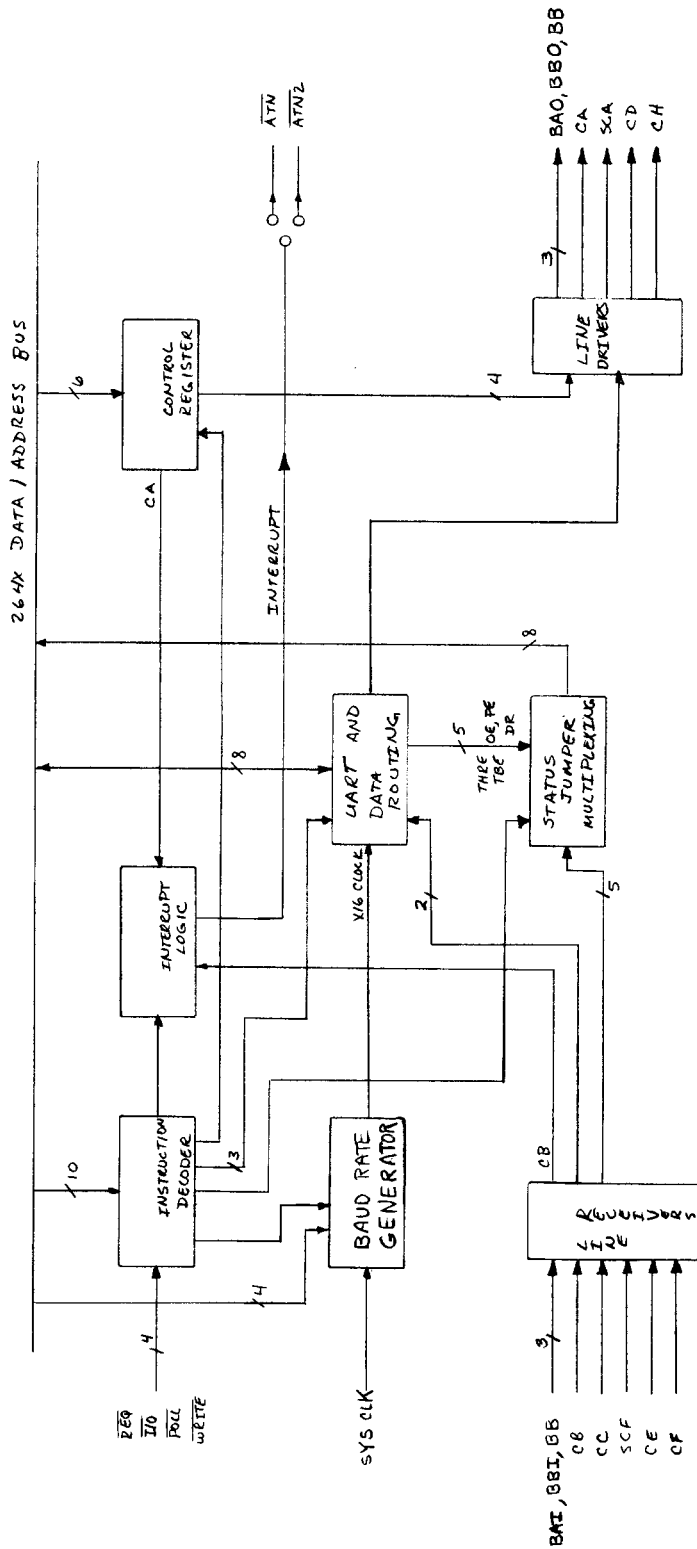

Figure 1
3.0 FUNCTIONAL DESCRIPTION. Refer to the block diagram (figure 1), schematic diagram (figure 2), daisy-chain logical connection (figure 3), component location diagram (figure 4), and parts list (02640-60106) located in the appendix.